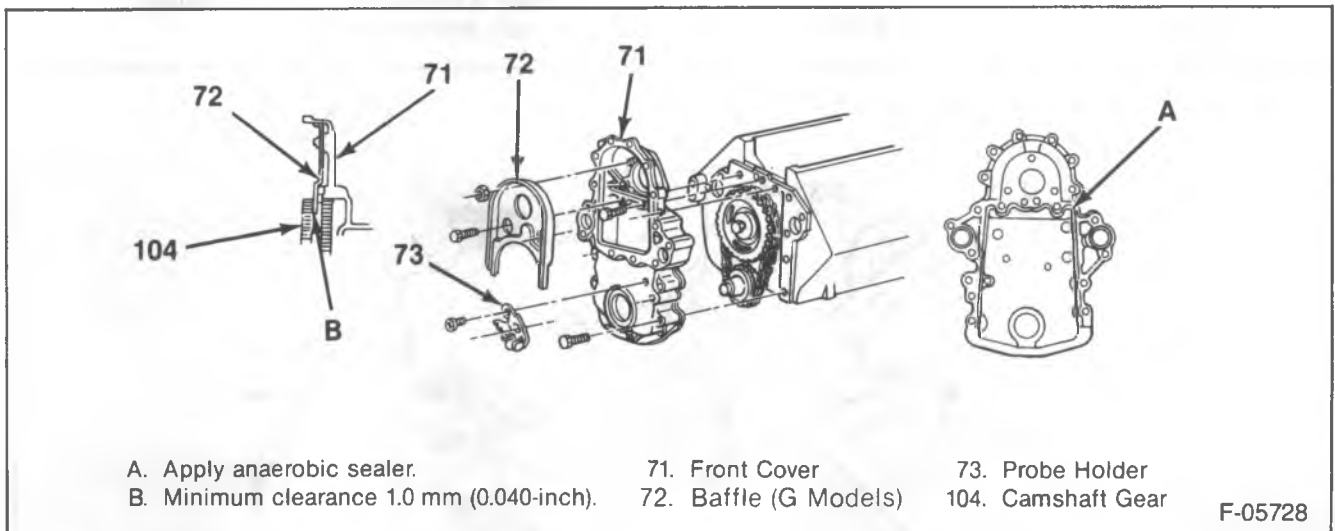

Figure 40—Front Cover Installation
- Apply a 2 mm (³/₃₂-inch) bead of anaerobic sealant (GM part number 1052357 or equivalent) to the front cover sealing area shown in figure 40.
1. Front cover to the engine. Install the bolts (70).
- Bolts (70) to 45 N·m (33 ft. lbs.).
2. Baffle (72) bolts (86) and nut (87) (G models).
- Bolts (86) and nut (87) to 45 N·m (33 ft. lbs.).
- Clearance between injection pump gear and baffle (figure 40). It is necessary to maintain a minimum of 1.0 mm (0.040-inch) between the gear and baffle, or noise may result.
- Apply a 5 mm (³/₁₆-inch) bead of RTV sealant (GM part number 1052915 or equivalent) to the oil pan sealing surface, inboard of the bolt holes (figure 40). The sealer must be wet to the touch when the oil pan is installed.
3. Bolts (133).